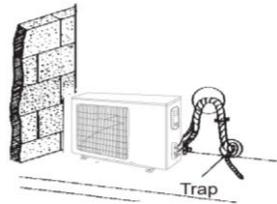

Fig. 4.18
- (2) If the outdoor unit is installed higher than the indoor unit (See Fig. 4.18)